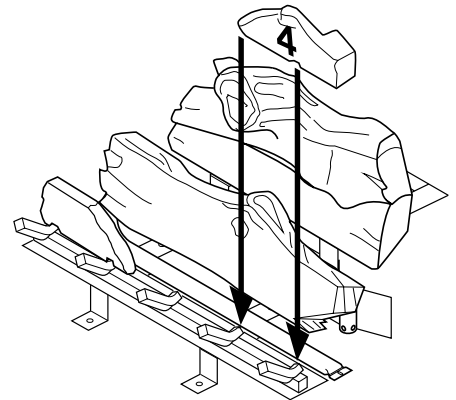

Figure 48 - Installing Log No. 4
5. Place log #4 (right piece) onto the front right part of the grate making sure the notches fit over the prong of the grate (see Figure 48).